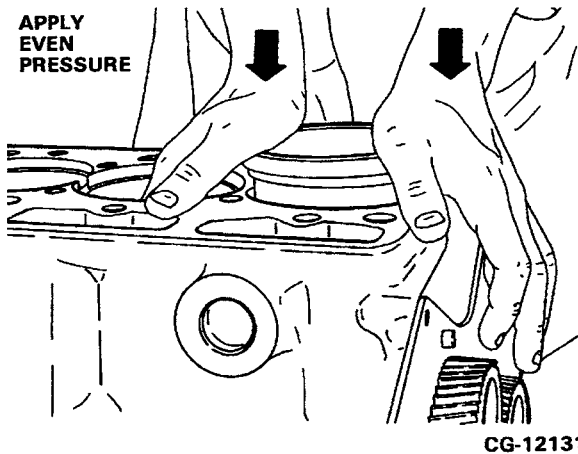

Figure 6.54. Install Cylinder Sleeve
2. Lubricate the lower crankcase counterbore, then install the sleeve carefully into the same bore from which it was removed. Press into place by hand. Apply even pressure on each side. Refer to Figure 6.54.